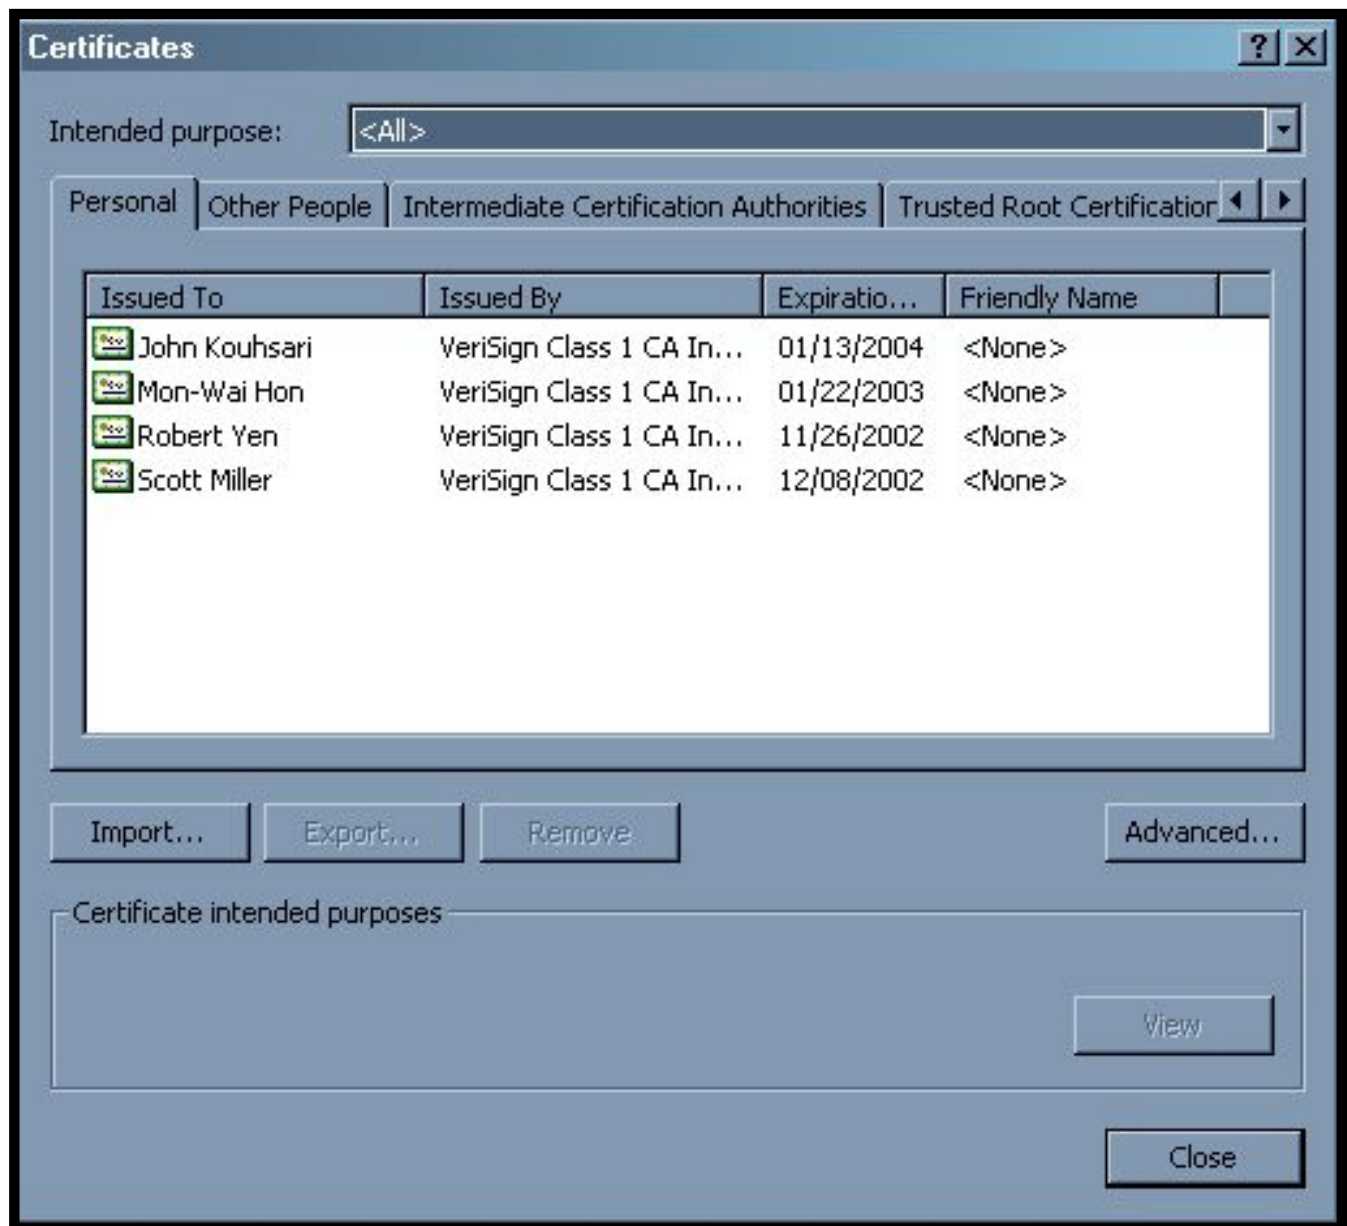

Figure 4.2-2: Click the Import Button
2. Click the *Import* button. See Figure 4.2-2 below.